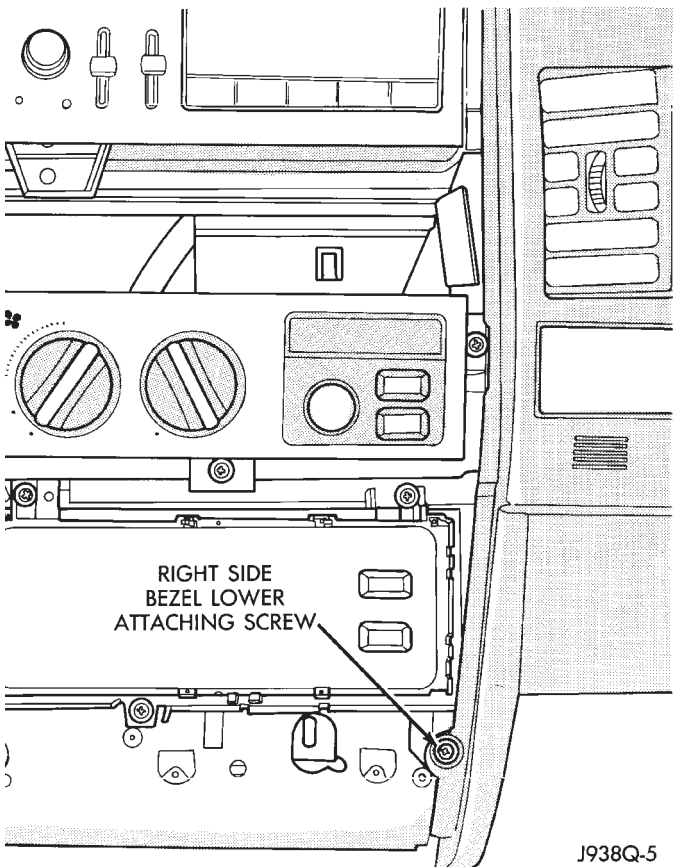

Fig. 7 Right Side Lower Screw
(14) Remove 1 screw holding the bezel to the center console (Fig. 7).